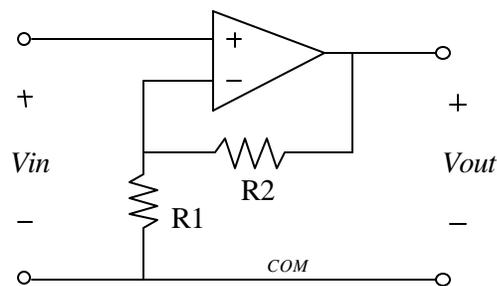

Figure 3 A non-inverting amplifier. The gain of the amplifier is $1+R2/R1$.
- Using the other op-amp on the LF353, construct a non-inverting amplifier with a gain of 50 as shown in Figure 3. Let $R1=1k$, and use a 100 k trim pot for $R2$. The gain of this circuit is $(R1+R2)/R1$.